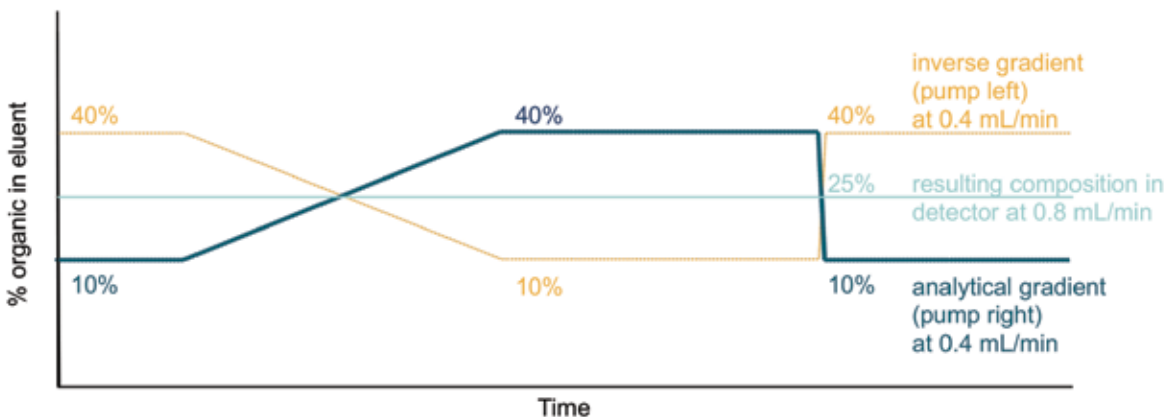

Figure 5. Option 1: Constant Solvent Composition.
- What it is: The ramp of the compensation gradient is an exact inverse of the analytical gradient (Figure 5). The flow rate is the sum of both flow paths, so the flow rate to the detector is double that for just the analytical gradient.
Note: For programming the exact gradient dwell time differences between analytical and make-up flow paths needs to be considered. For visualization Figures 5 to 7 show the composition at the detector inlet and not the actual programmed gradients